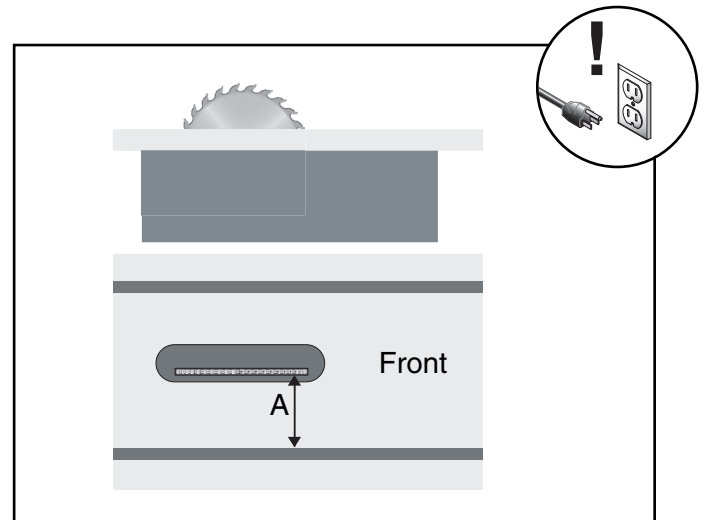

Figure 53. 90° blade parallelism measurement.
3. Tilt the blade to 90°. Using an adjustable square, measure the distance (A) between the miter slot and the front of the blade as shown in **Figure 53**.